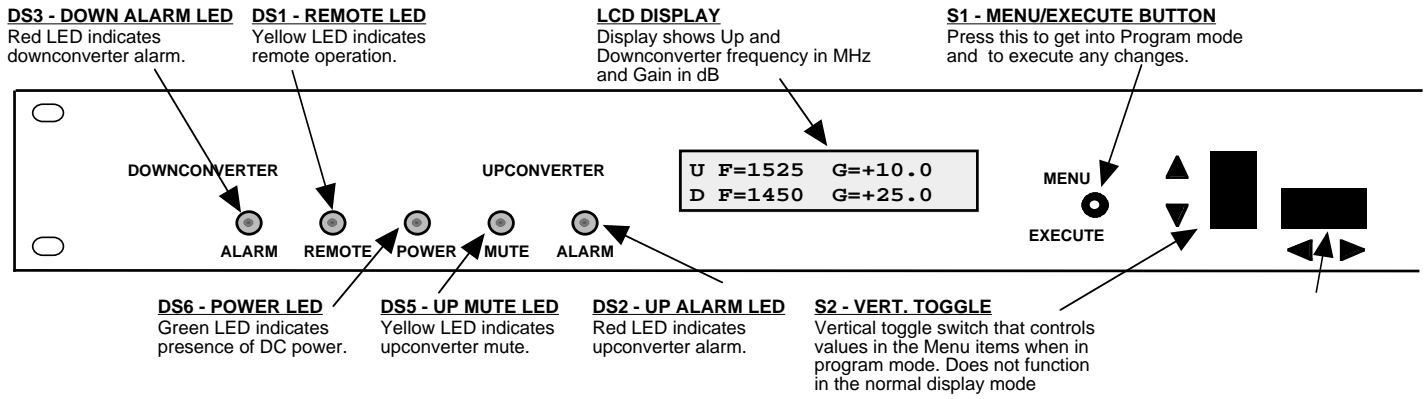

Figure 2.2 Model 2017-04 Front Panel Controls and Indicators
Figure 2.2 shows the front panel controls and indicators.
- 8.) Be sure DS6 (green, DC Power) is on and DS2 (red, Alarm) is off (Figure 2.2).
- 7.) Be sure DS6 (green, DC Power) is on and DS2 (red, Alarm) is off (Figure 2.2).
The functions are (see Figure 2.2):
Alarm indications appear on the LEDs (see figure 2.2).